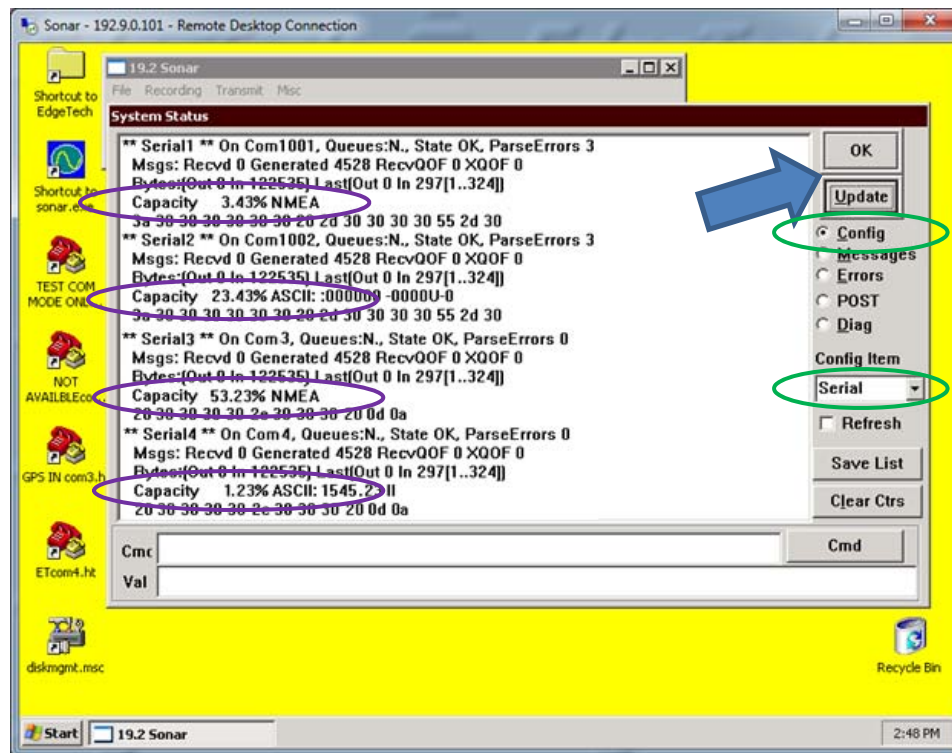

Fig. 13 - Checking all COM Ports
12. Select **Serial** and then click on the **Update** button several times (blue arrow, Fig. 13, A13).
13. Check to make sure the sensors' usage percentages are well below 80% (circled in purple, Fig. 13, pg A13). If they are not, increase the baud rate of the sensor, change the baud rate under Serial Port Information as done before in steps 6 and 7, and check the Status again, otherwise the sonar will report errors.
14. When satisfied with the incoming data, press **OK** in the System Status window (Fig. 13, pg A13).